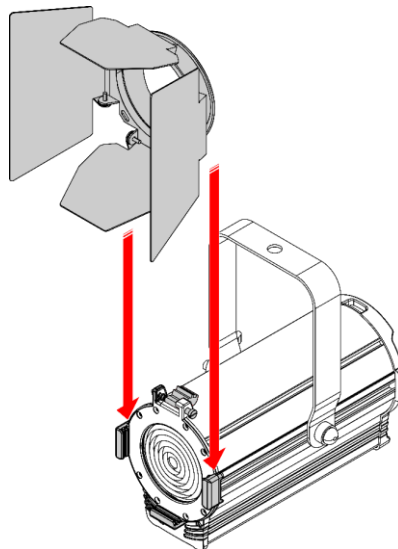

Fig. 10
- 02) Insert the barndoor into the **color frame holders (04)** (see Fig. 10).